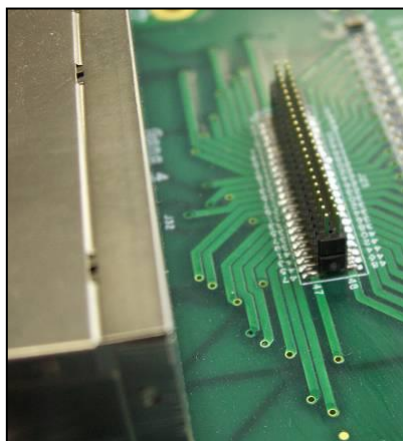

Figure 11: Port Connection
2. Port Connection (see Figure 11)